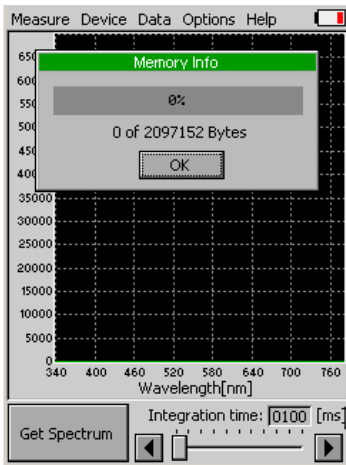

Fig. 5 Memory info.
- **Memory info (Fig. 5)** – displays info on currently used memory